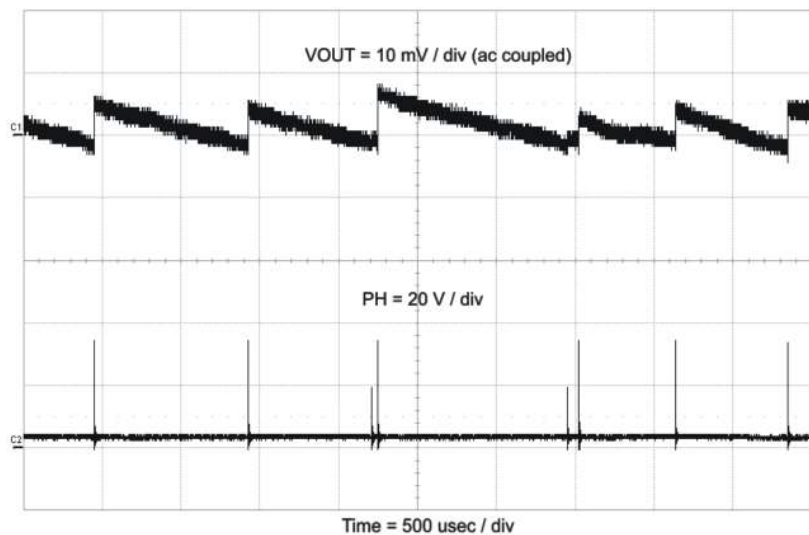

Figure 10. TPS54140EVM-429 Eco-mode™ Operation
Figure 10 shows Eco-mode operation, channel 1(C1) shows the output voltage while channel 2(C2) shows the switching node (PH).